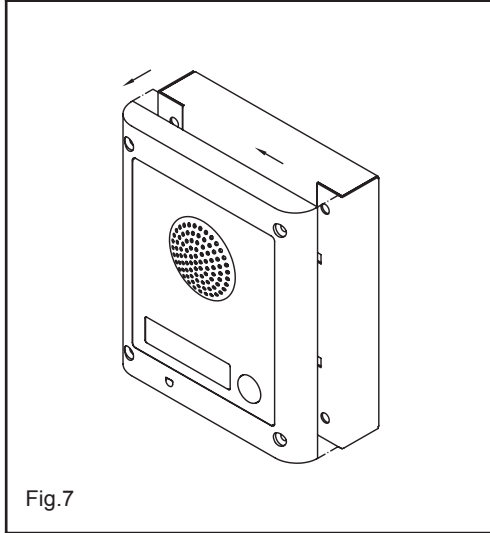

Fig.7
6. As shown in figure 7, pull back the module support frame h while moving it slightly to the left as suggested by the pointers;